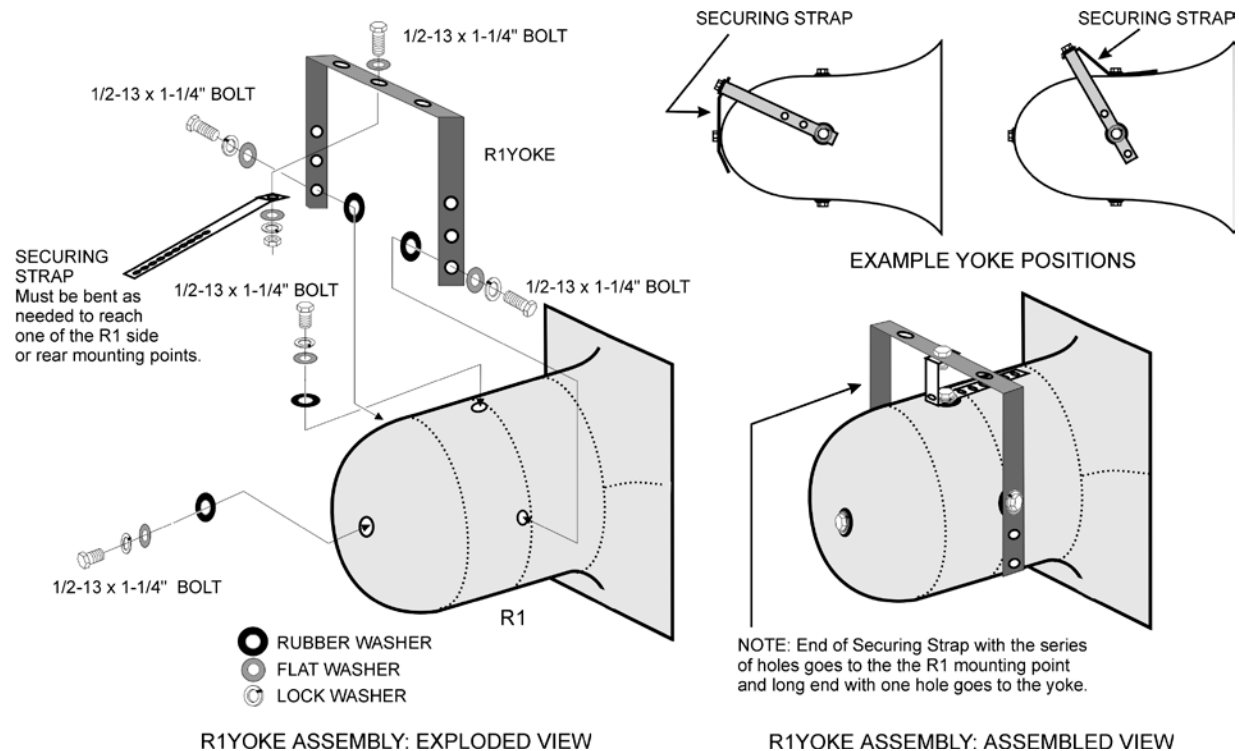

FIGURE 3: R1 YOKE Assembly
Custom Mounting Brackets: Custom brackets may be used. When mounting the loudspeaker the bracket should pull directly either in tension or shear on the mounting point (See FIGURE 3). It is recommended that any custom bracket be designed to utilize two mounting points on the opposite sides or top and bottom of the enclosure.
8.3.2 R1 YOKE MOUNTING PROCEDURE (See FIGURE 3)
5. After properly securing the yoke to the structure, adjust the final aiming angle of the R1. Once the aiming angle is set, carefully bend the Securing Strap towards the nearest mounting point on the R1 so that one of the series of holes in the Strap lines up with the selected mounting point. This may involve forming the strap into a "U" shape (as shown in FIGURE 3 "Assembled View") to reach one of the remaining side mounting points or the rear mounting point.